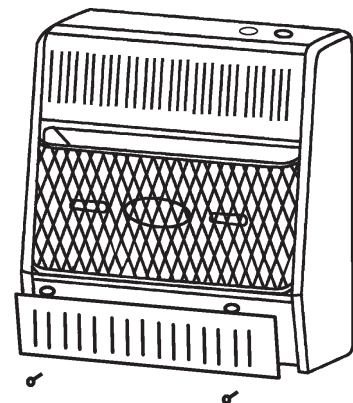

Figure 5 - Mounting Bracket Clearances (inches)
2. Pull bottom of lower front panel forward, then down (see Figure 5).